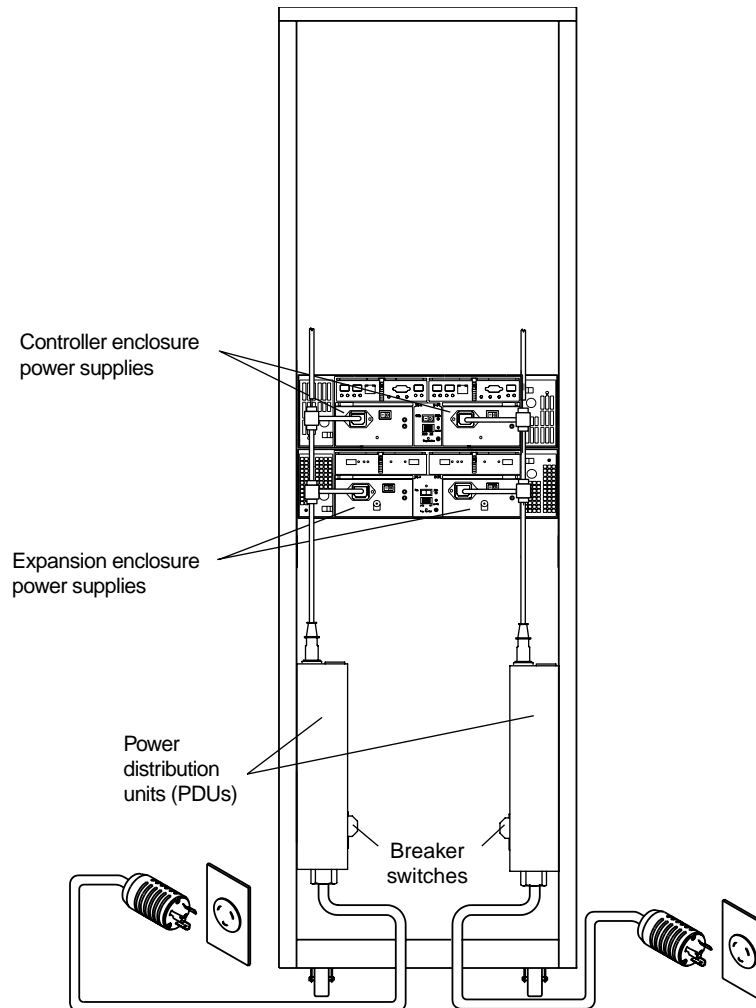

Figure 5-11 PDU Cabling
5. To ensure power redundancy, plug each power distribution unit into a separate AC power circuit (see Figure 5-11).
7. When all controller and drive enclosure power switches are in the ON position, flip the breaker switches of both PDUs to the ON position (see Figure 5-11).